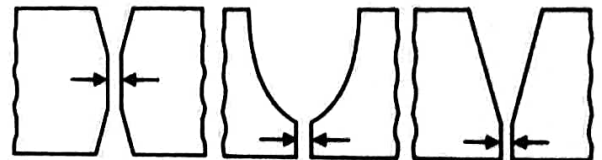

Fig. 5.53. Root faces marked with arrows
**Root Face :** It is the unbevelled or unground portion of a face at the root. (Fig. 5.53).